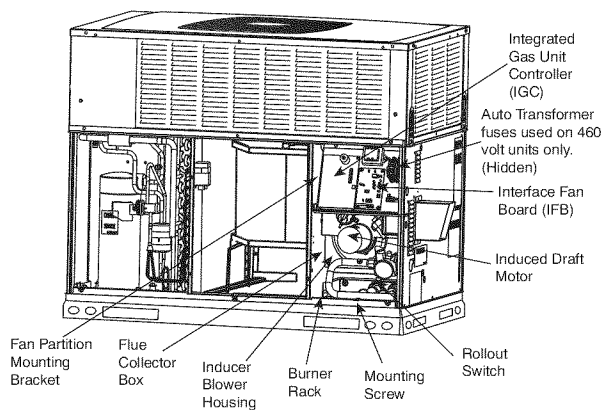

Fig. 26 - Blower Housing and Flue Collector Box
5. Remove fan partition mounting bracket (2 screws located on the left side of control compartment on the fan partition panel). Slide bracket forward, bottom first, to remove. (See Fig. 26.)
7. Remove the mounting screw that attaches the burner rack to the unit base (See Fig. 26).
8. Partially slide the burner rack out of the unit (see Fig. 26 and 27). Remove ignitor and sensor wires at the burner assembly. Remove wires to rollout switch.
9. Slide the burner rack out of the unit (See Fig. 26 and 27).